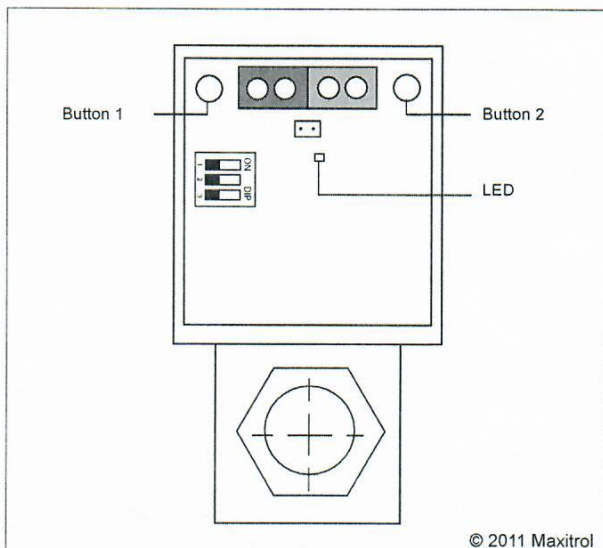

Figure 4: EXA STAR Modulating Valve Series Adjustment Controls
The EXA STAR modulating valve series has two (2) buttons and a communication LED for the user interface. The buttons are used to set the valve for high and low fire settings (see Figure 4).